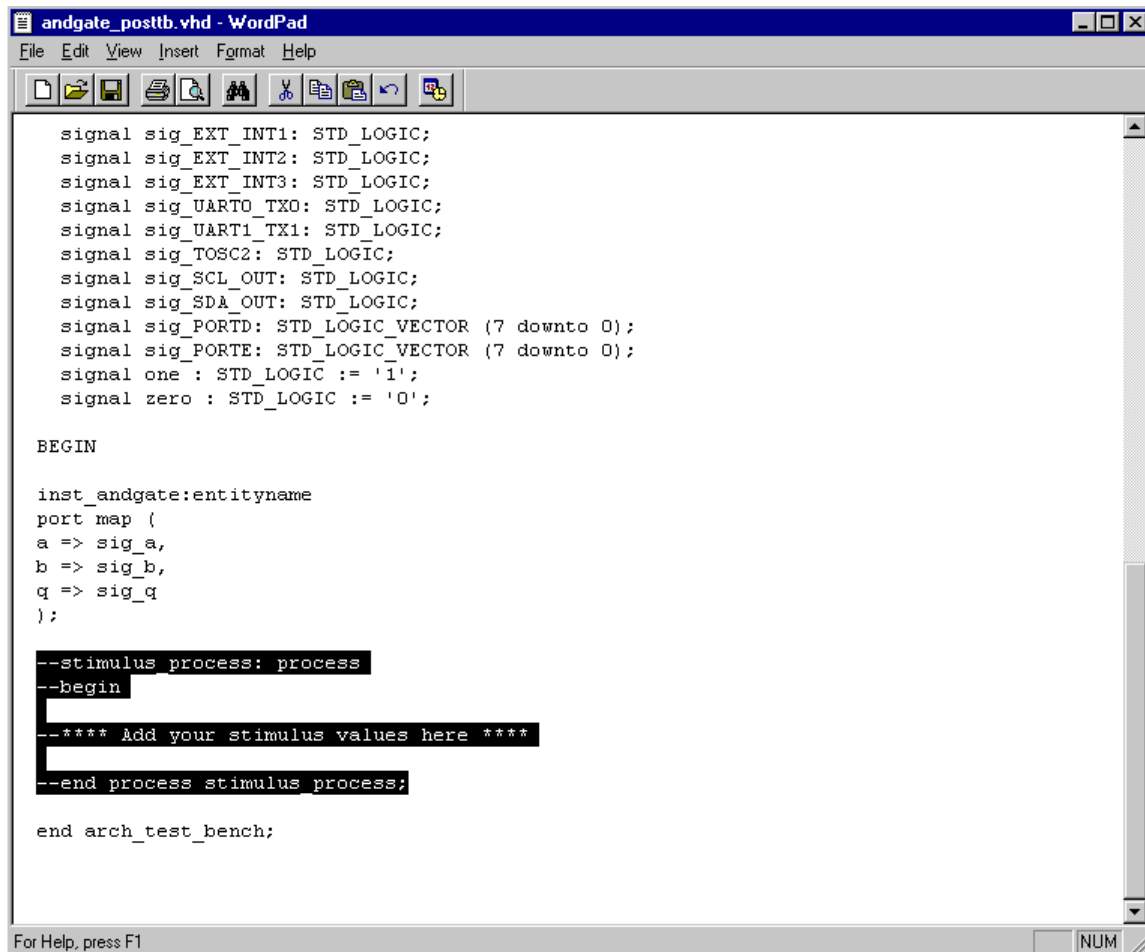

Figure 21 Stimulus
4. Highlight the stimulus syntax as shown in **Figure 21**.